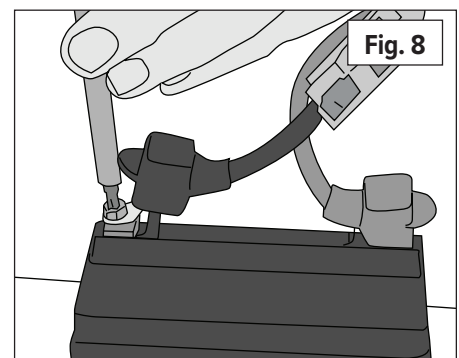

Fig. 8
17. **(Fig. 8)** Using the phillips head screwdriver, **unscrew the negative (black) terminal first.** Then, unscrew the positive (red) terminal.